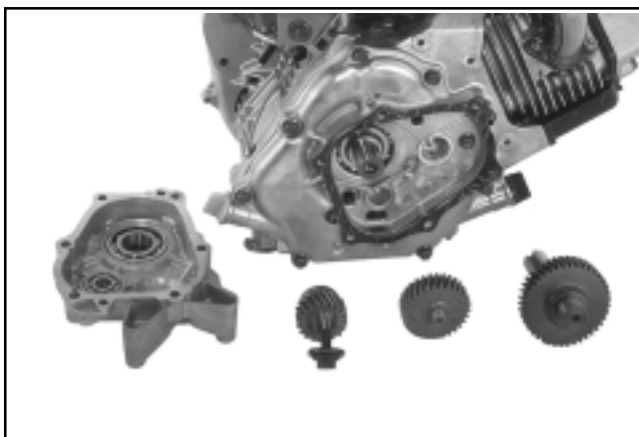

**Figure 9-59. Removing Sprockets and Chain on CS4, CS6.**
- a. On CS4 and CS6, leave the chain intact, and pull out the two sprockets as an assembly. See Figure 9-59. Note the position of the wave washer and remove it from the output shaft. Also remove the thrust washer from the end of the crankshaft. See Figure 9-60.